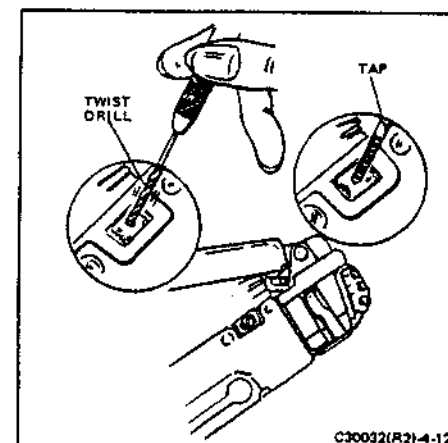

FIGURE 4-12 REPAIRING DAMAGED BOOT RETAINER TAB
- b. Use a No. 62 twist drill in a pin vise and drill a hole 1/8" deep, dead center in the boot retaining tab (Figure 4-12). Hold the boot retainer tightly between thumb and forefinger.